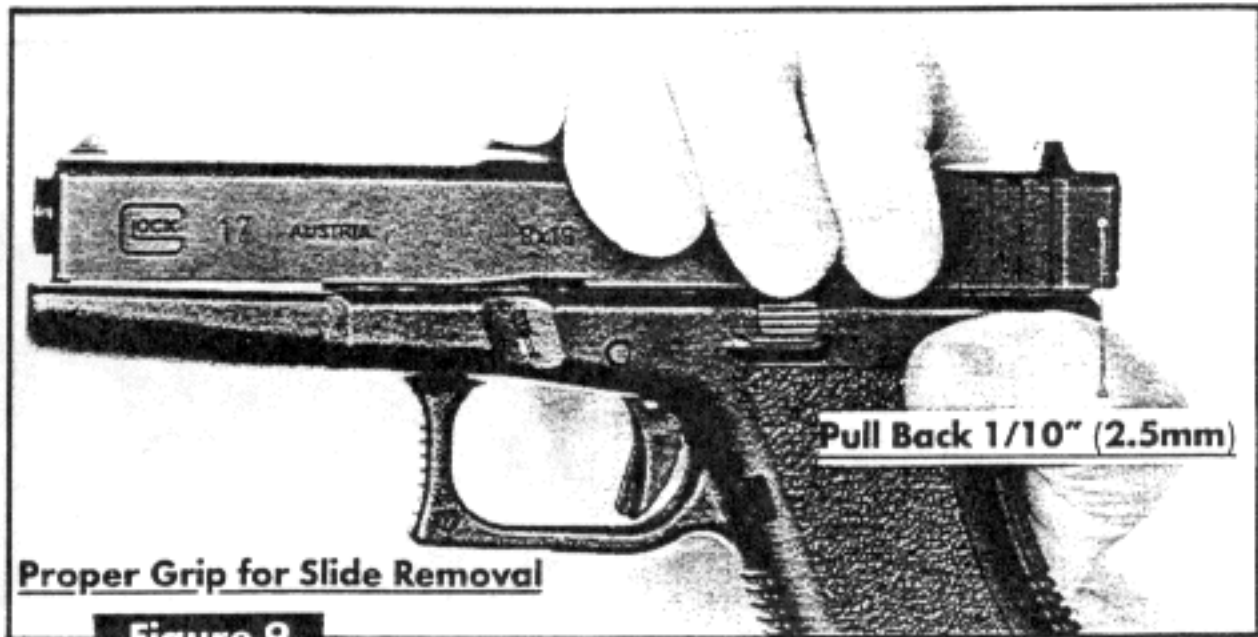

Figure 9
- HOLD the pistol in either hand so that four fingers grasp the top of the slide as shown (Figure 9). With these four fingers, pull and hold the slide back approximately 1/10 inch (2.5mm).